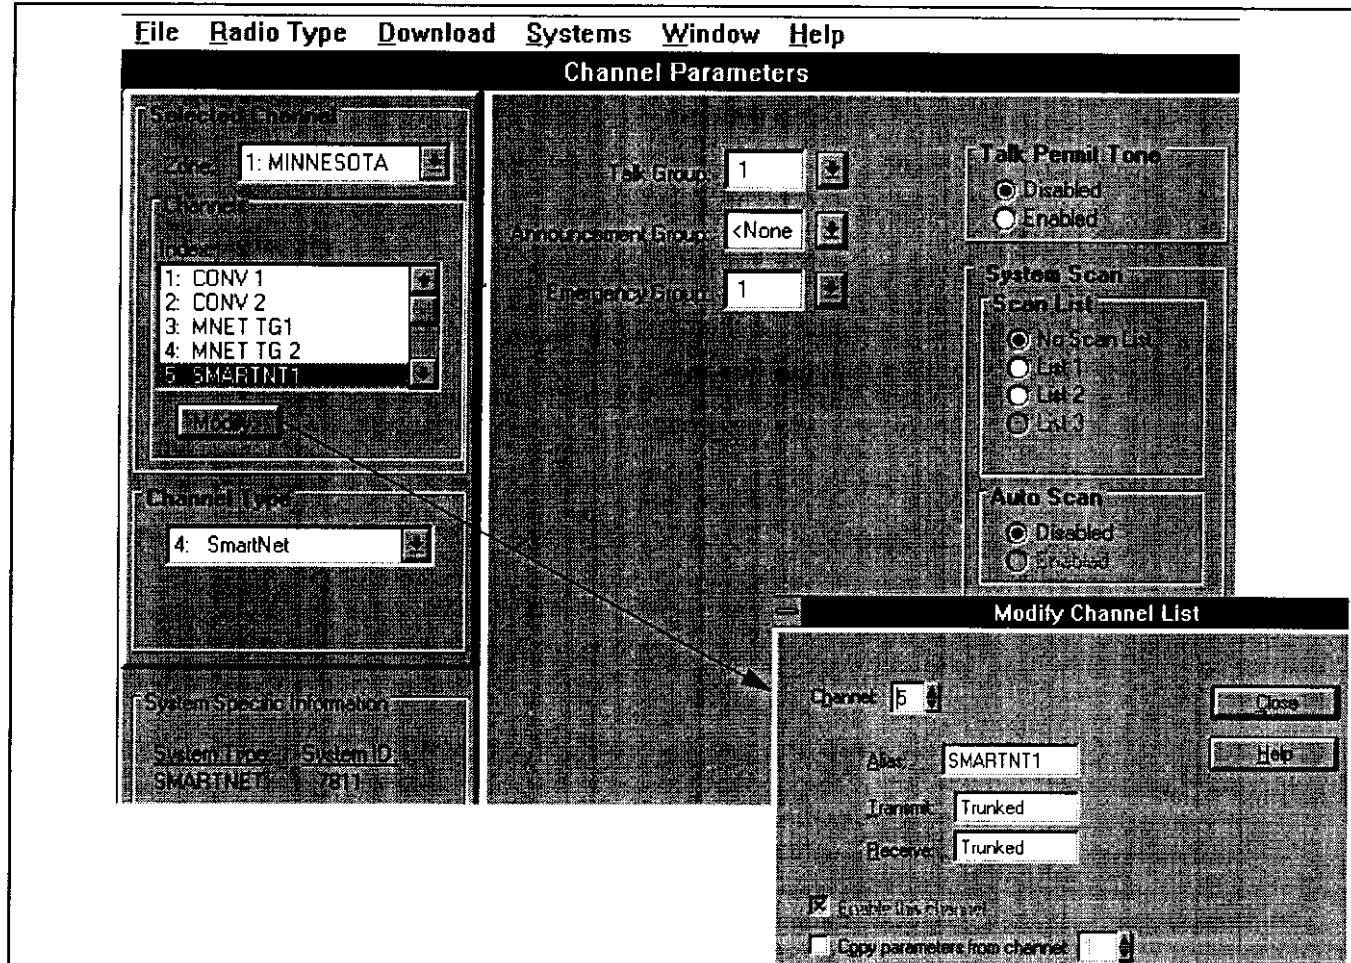

Figure 4-4 SmartNet/SmartZone Channel Screen
The SmartNet/SmartZone Channel screen shown in Figure 4-4 is displayed when the SmartNet or SmartZone channel type is selected. The channel screen programs unique channel parameters and also assigns channels to the selectable zones displayed by the transceiver.
4. Click the Modify button to display the dialog box shown in the lower part of Figure 4-4. This box programs the alias (tag) that is displayed when it is selected.
The following parameters are programmed in the SmartNet/SmartZone channel screen shown in Figure 4-4.
Modify... - Displays the screen shown in the lower part of Figure 4-4. The parameters programmed in this screen are as follows: